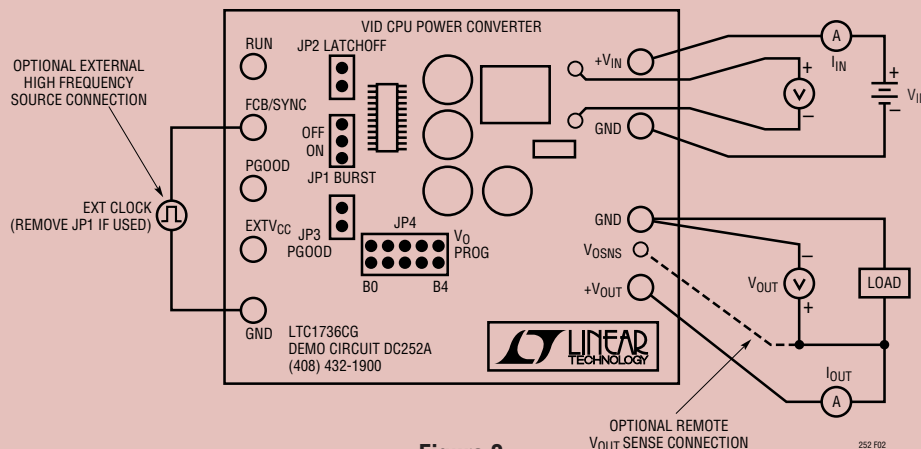

Figure 2
- Refer to Figure 2 for proper connection of monitoring and measurement equipment.
When trying to measure voltage regulation, remember that all measurements must be taken at the point of regulation. This point is where the LTC1736's control loop looks for the information to keep the output voltage constant. In this demonstration board it is located between Pin 5 (SGND) of the LTC1736 and the sense side of R_{S1} . This point corresponds to the V_{OSNS} terminal of the board. Output voltage test leads should be attached directly to this terminal. The load should be placed across the V_{OUT} (E7) and GND (E8) terminals. Measurements *should not* be taken at the end of test leads at the load; refer to Figure 2 for the proper monitoring equipment configuration.